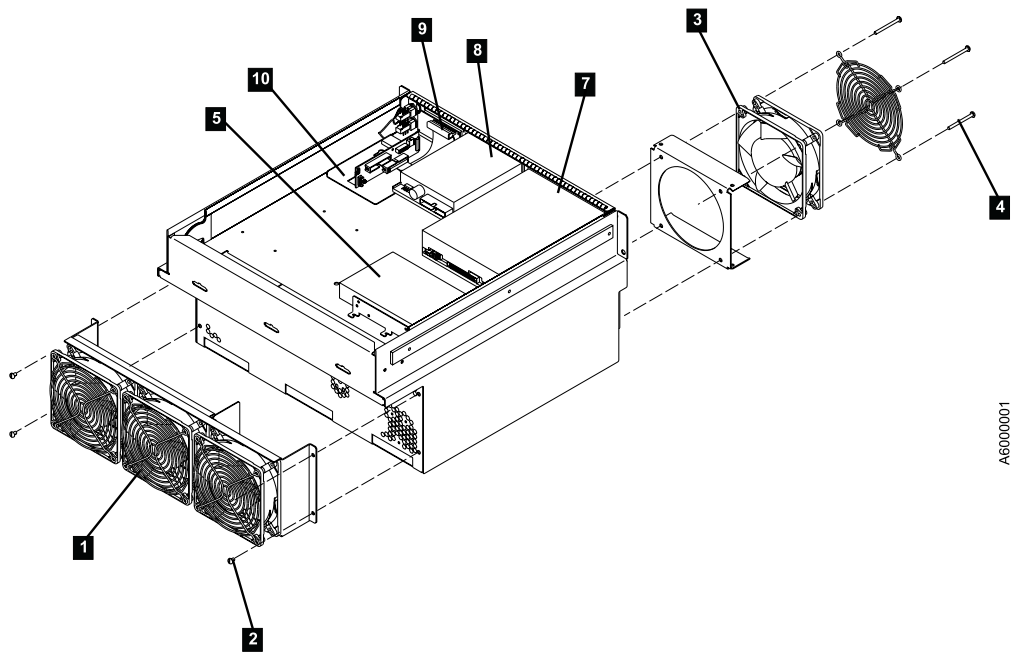

Figure 85. A60 Controller Top View
- \_\_\_ Step 6. Unplug both cables at rear of Optical disk drive assembly. refer to Figure 85 on page 324 **7**